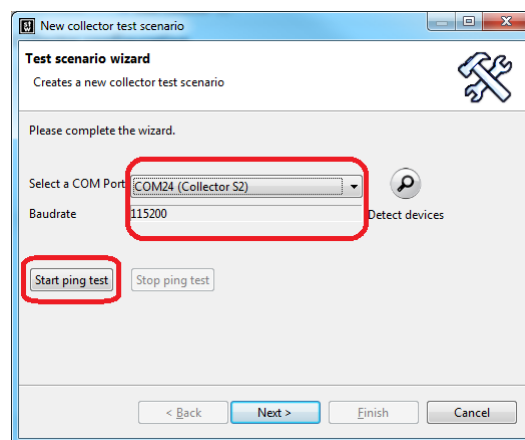

Figure 43: Start ping test
4. The wizard shown in figure 43 pops up. Configure the COM port settings to the correct COM port. Then press 'Start ping test'.